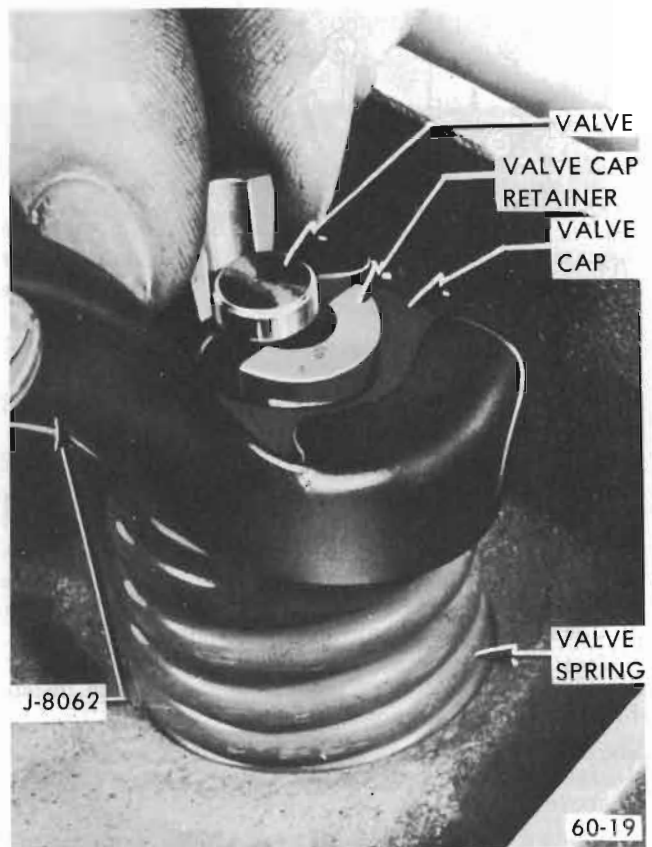

Figure 60-11 - Removing Valve Cap Keys
2. Using a suitable spring compressor, such as J-8062, compress valve spring and remove valve spring cap keys. Release tool and remove spring and cap then, remove oil seal. See Figure 60-11.
21. Rinse push rod seat and plunger retainer, place these parts in end of body and depress with handle of Remover J-5238 until retainer engages groove in body. See Figure 60-11.